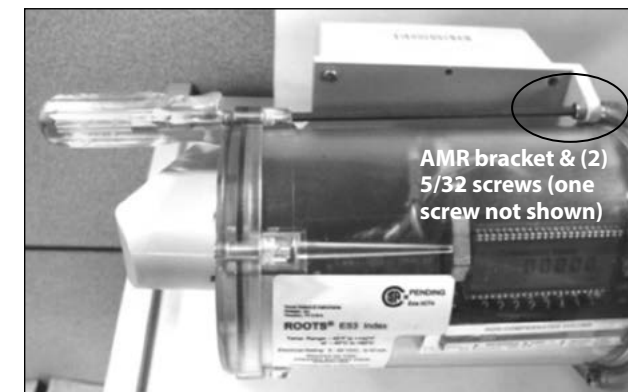

Figure 13.4 -Remove 2 screws attaching AMR bracket to ES3
1. Using a 5/32 allen wrench, remove the (2) 5/32 screws that attach the AMR bracket to the ES3 as shown in Figure 13.4.